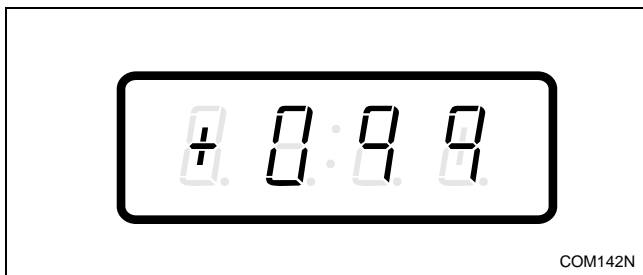

Figure 163
3. Press the DELICATES (+) or the COLD (-) keypad to scroll through the programmable options until “+099” appears in the VFD. Refer to *Figure 163*.